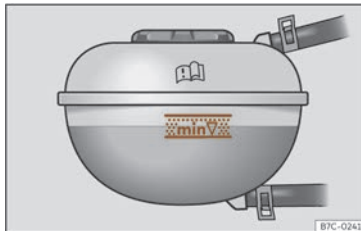

Fig. 217 In the engine compartment: marking on coolant expansion tank.
- Read off the coolant level on coolant expansion tank. When the engine is cold, the coolant level should be between the marks »» **Fig. 217**. When the engine is hot, it may be slightly above the upper mark.